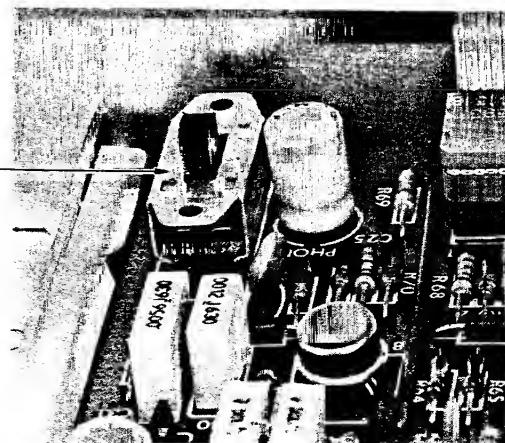

FIGURE 10
2. Adjust the slide switch per Figure 10.